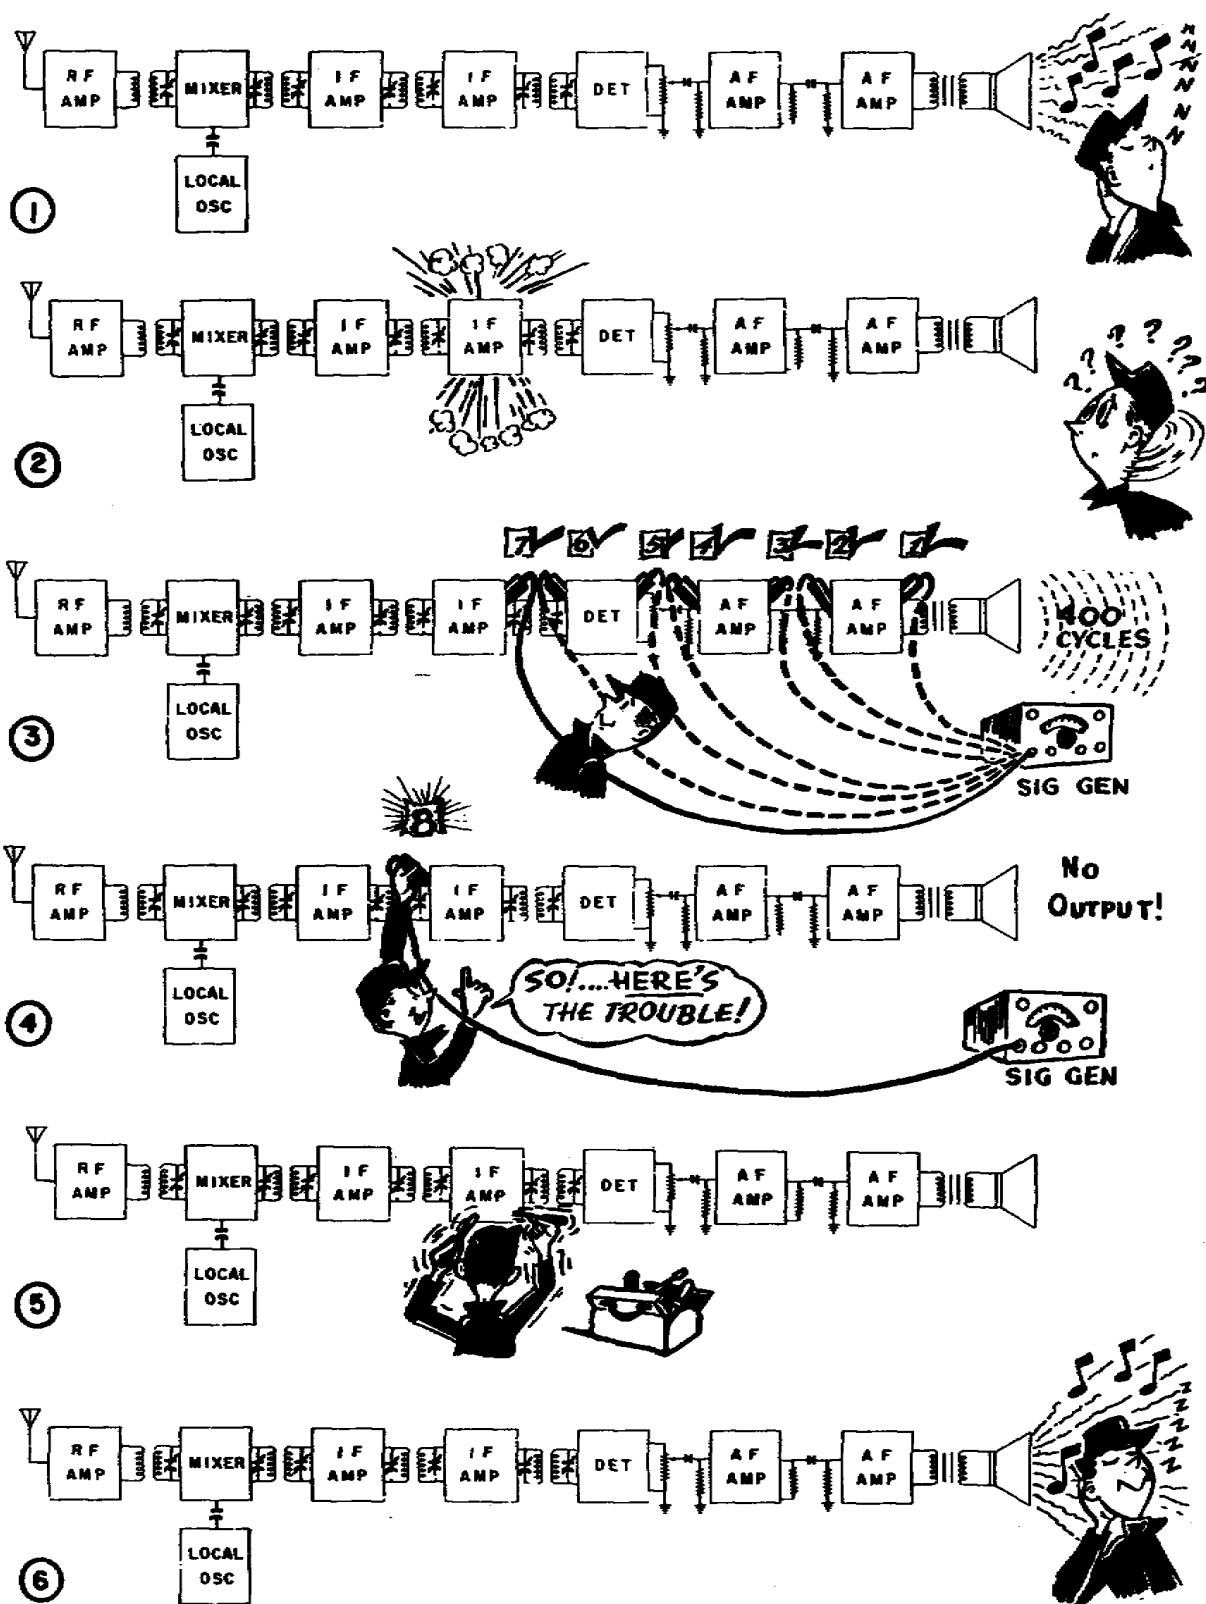

Figure 5-2. Localizing trouble by signal substitution.
- (1) How to set the receiver controls before starting.
- (2) At what frequency to set the signal generator for each stage you are going to check.
- (3) What value of input signal you are going to inject.
- (4) Test points to be used.
- (5) What signal or meter indication you should get if operation is normal.
- (6) What components are possibly faulty if the signal does not pass through the stage.
c. Signal Substitution Procedure. Let's take a typical AM receiver and see how to use the signal substitution method for locating a trouble. All you have to do is substitute the signal, following the order and at the points shown in figure 5-2. Remember, signal substitution is used to localize trouble to a stage. Once you have located the stage, you must test the tube in the stage and take voltage and resistance measurements to isolate the trouble to a component.